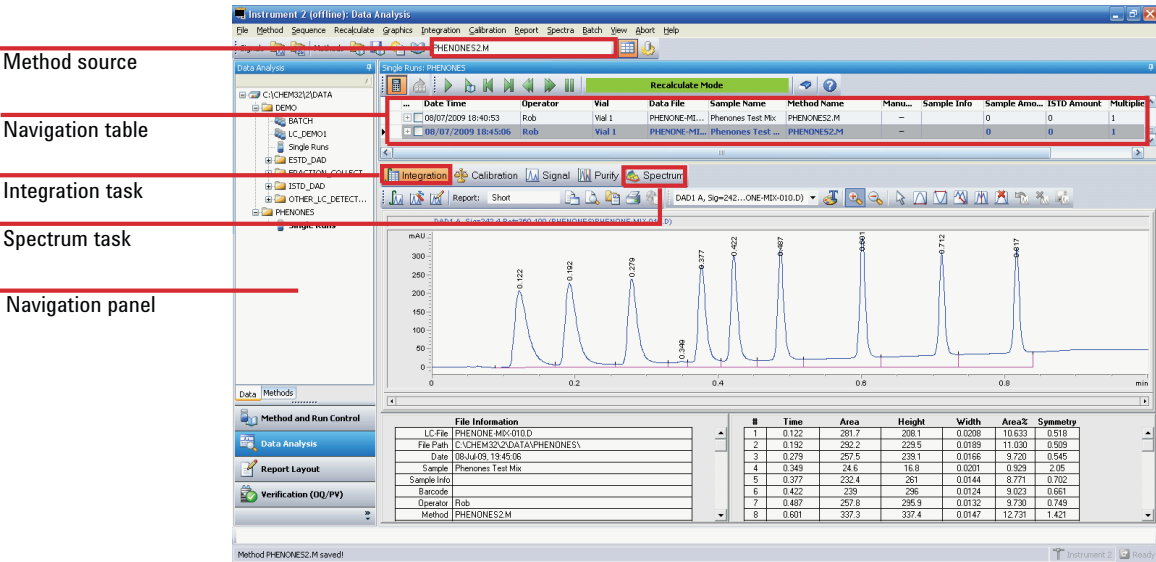

Figure 34 Data Analysis view
- 2** Click Data Analysis in the bottom left of the screen (see Figure 34 on page 103).